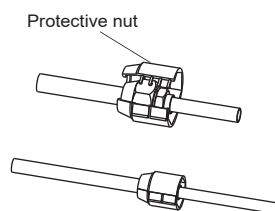

Fig.5-5
- The protective nut is a one-time part, it can not be reused. In case it is removed, it should be replaced with a new one. (Refer to Fig.5-5)